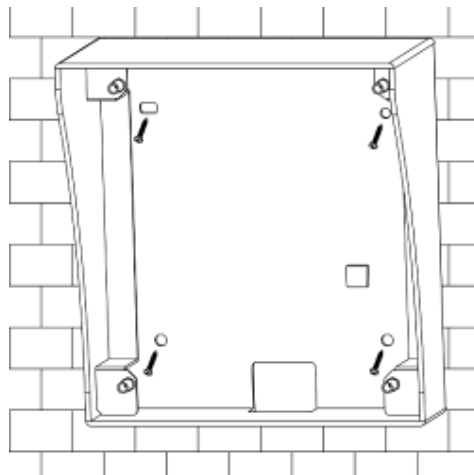

Figure 5- 1
- a) Install metal bracket into the groove on wall. Secure 4 fasten screw (ST4.2x25), and fix metal bracket on wall. See Figure 5- .